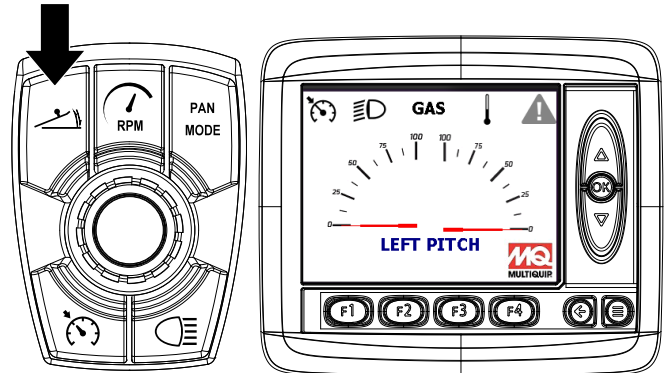

Figure 38. Digital Display (Blade Pitch)
- Blade pitch can be set independently for each rotor (single pitch) or for both rotors simultaneously (dual pitch). Press the **blade pitch button** to view the **blade pitch adjustment screen** on the digital display (Figure 38).